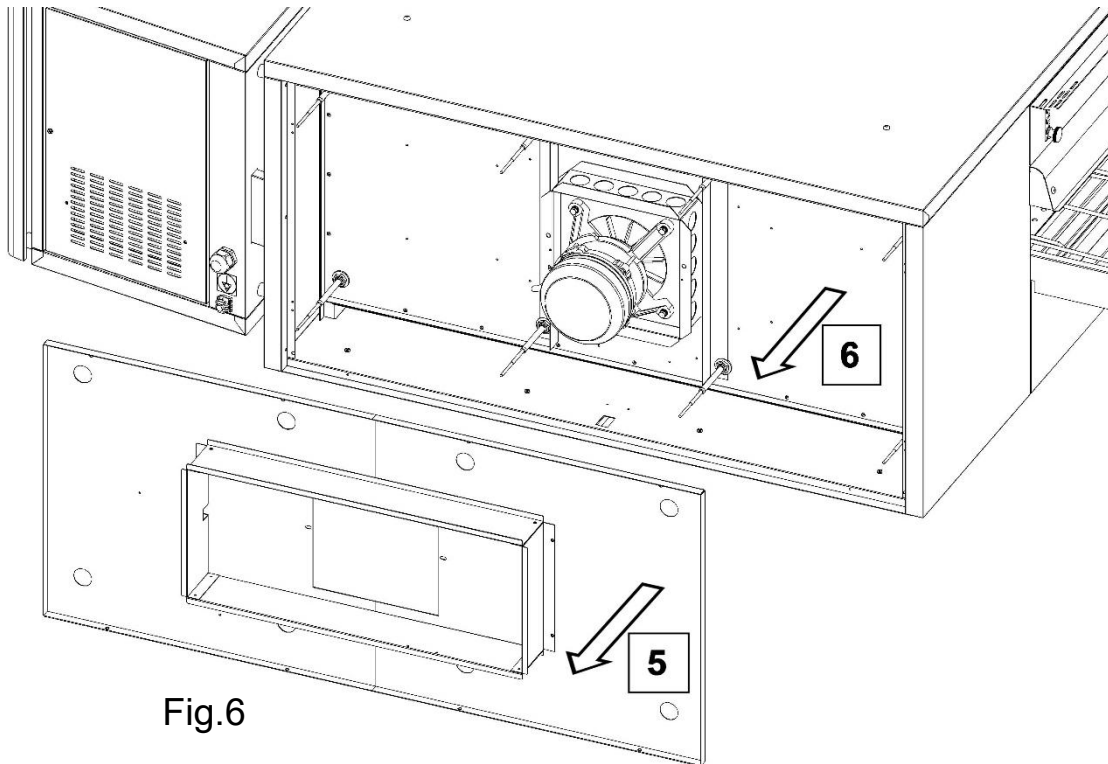

Fig.6
6. Remove the engine panel (Fig.6).
Alternatively, tapping on the keypad symbol will take you to the screen for directly selecting the chosen value (Fig. 6). Confirm with a tick or flag; to cancel, press 'X' to cancel.